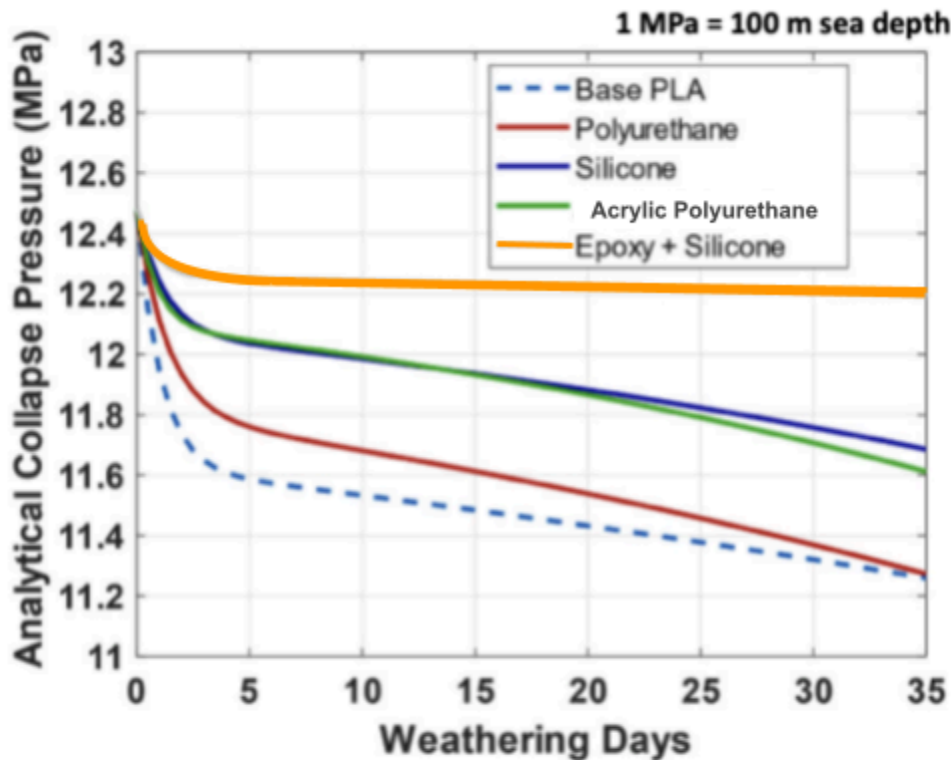

Figure 2: Analytical Collapse Pressure & Weathering Days
- What information did you get from the graph (Figure 2)?
The graph below shows the results of Dr. Matos' investigation (Figure 2). The Analytical Collapse Pressure (MPa) indicates the amount of force the model vessel could withstand before imploding. This pressure is related to how deep the vessel can go before the risk of implosion (Figure 3). The Weathering Days shows the number of days the vessel might be expected to stay underwater.